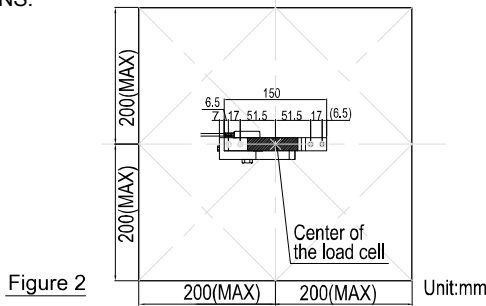

Figure 2
- (6) For the allowable dimensions of the platform, refer to Figure 2. Also, when designing a platform, refer to the "3.2. OVERLOAD PRECAUTIONS."